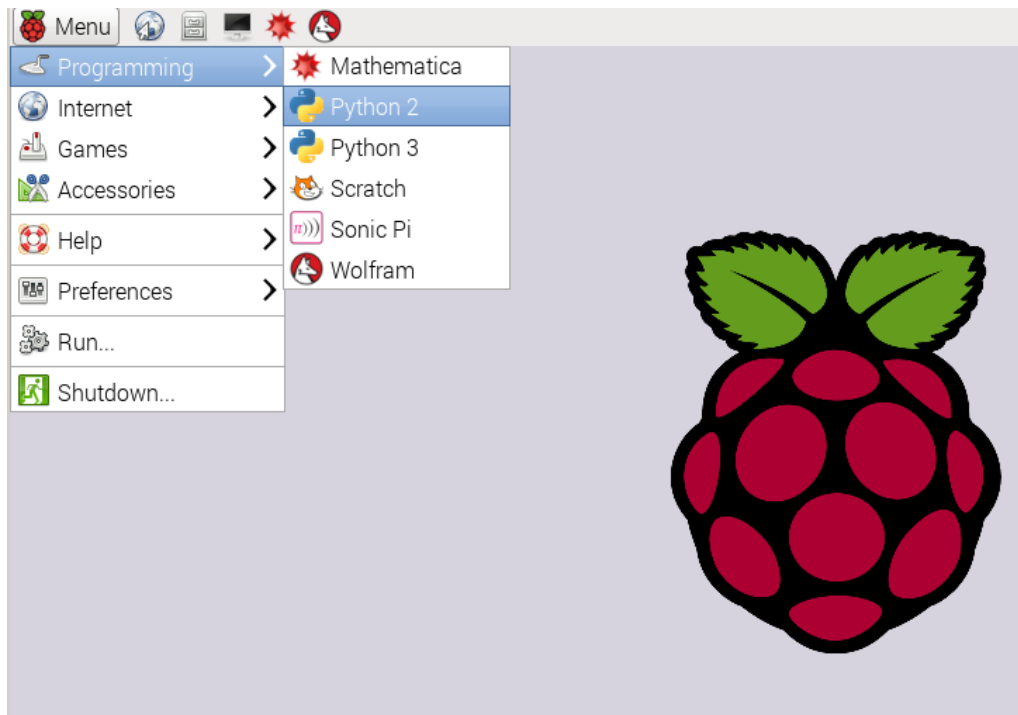

Figure 9.1. Starting Python2 IDE
1. Start Python Shell from Raspberry Pi by choosing **Menu > Programming > Python 2** (Figure 9.1).